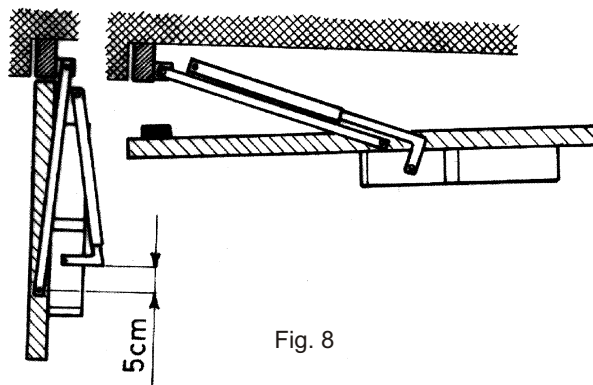

Fig. 8
If you have an application where you cannot fit the telescopic arms in line (as shown in Fig. 8), follow these directions:
- modify the tap section of the telescopic arm, forming an elbow as shown in Fig. 8; when the door is fully open both arms should be parallel.